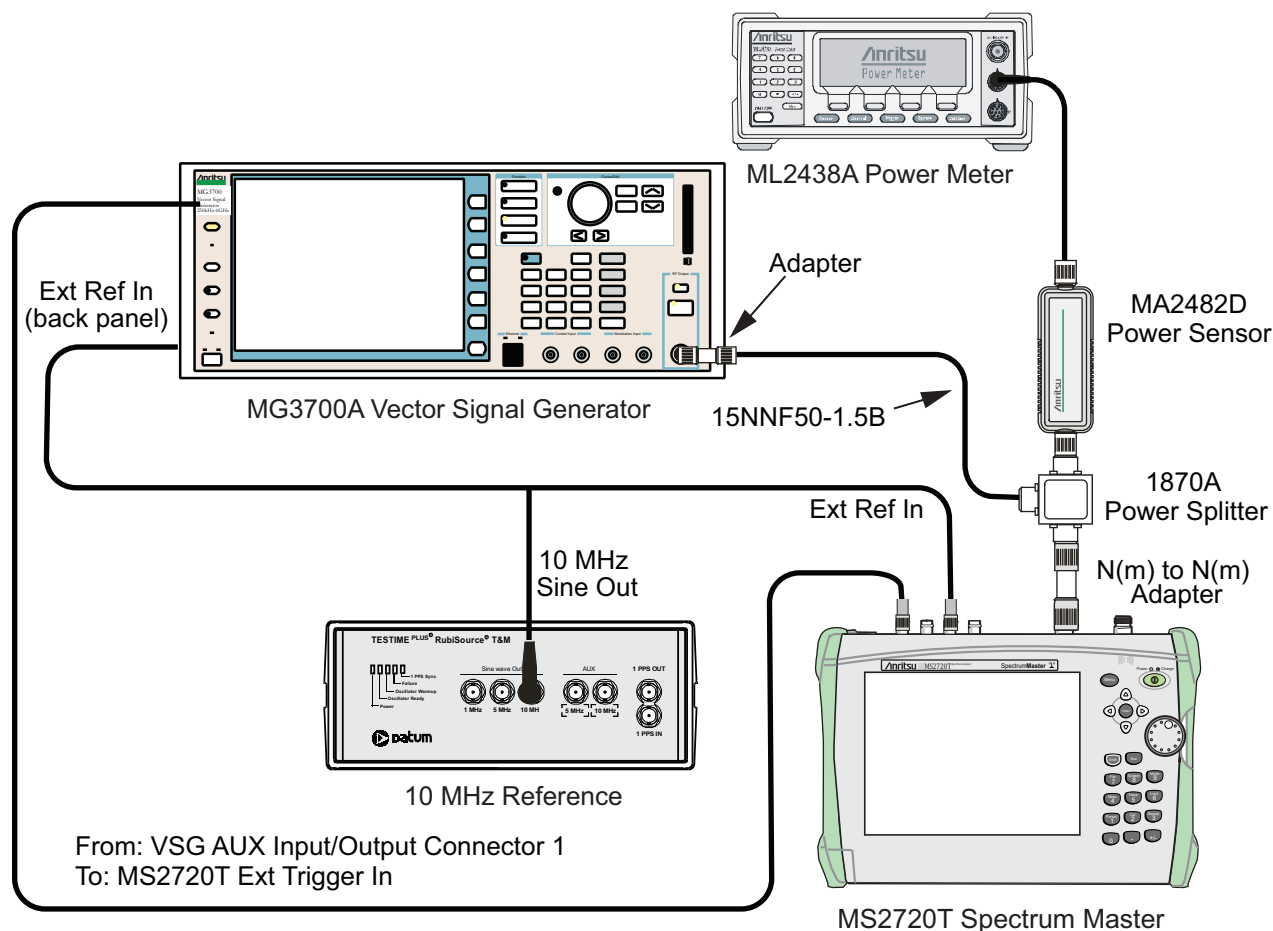

Figure 3-11. CDMA Signal Analyzer, Test Setup
3. Connect the equipment as shown in Figure 3-11.